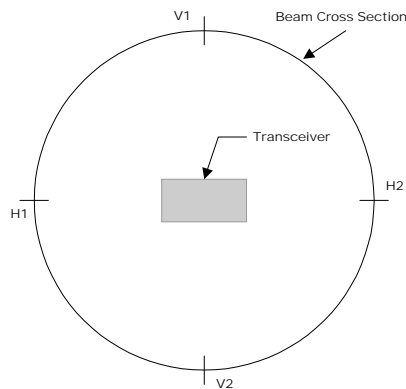
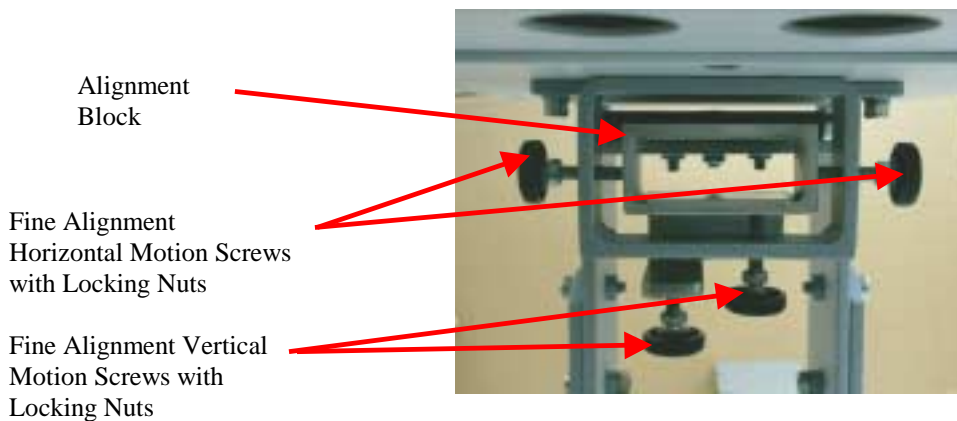

Figure 6.10: Front view – Transceiver at the middle of the beam cross section
Figure 6.11: Fine Alignment Motion Screws – Rear View
2. To enable maximum flexibility during the fine alignment stage, rotate the fine alignment screws (Figure 6.11) until the alignment block is centered.
The purpose of fine alignment is to position the center of the transmitted beam spot on the center of the TereScope receiver – in both directions (Fig 6.10). This is achieved by adjusting the horizontal and vertical motion screws (shown in Figure 6.11) until maximum power is received at the opposite TereScope.